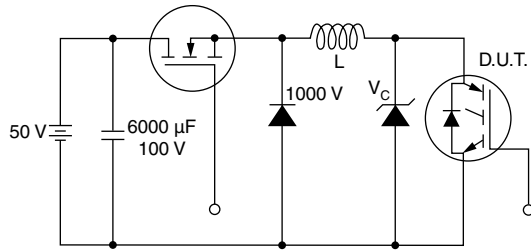

Fig. 19 - Clamped Inductive Load Test Circuit
(2) $V_{CC} = 80\text{ } \%$ (V_{CES}), $V_{GE} = 20\text{ V}$, $L = 10\text{ }\mu\text{H}$, $R_G = 10\text{ }\Omega$ (see fig. 19)